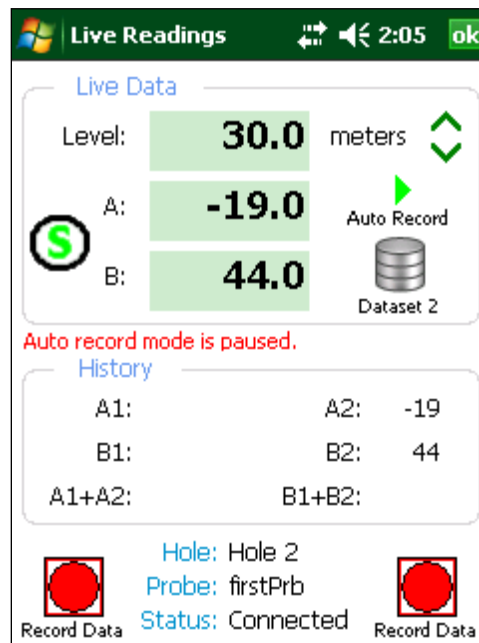

Figure 73 - Auto Record Paused, Dataset Two Selected
- 7) Tap the “Dataset 1” icon and observe that the red status text message will change to “Auto record mode is paused” and the “Pause” icon will change to the “Play” icon while “Dataset 1” becomes “Dataset 2” (Figure 73).